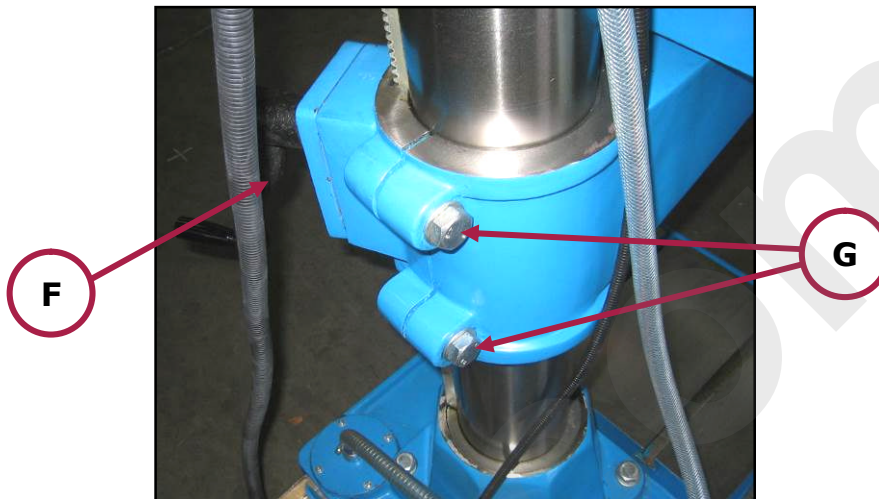

Figure 18 – Table height adjustment parts.
- a handle located on the right hand side of the table ("F" in figure 18);
- two locking bolts located on the left hand side of the table ("G" in figure 18).